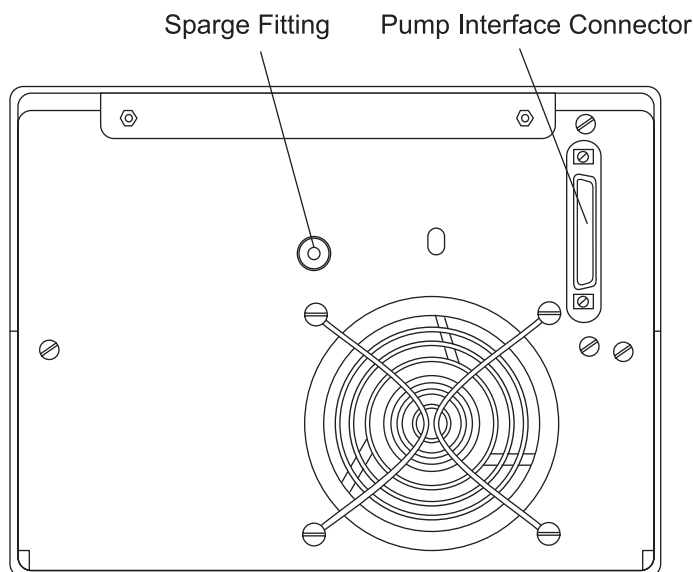

Figure 2-9 Sparge Gas Inlet Connection on the 600E Pump
1. Connect the tubing from the helium supply to the sparge gas inlet on the 600E pump rear panel (Figure 2-9) using the tubing and compression fittings assembled above.